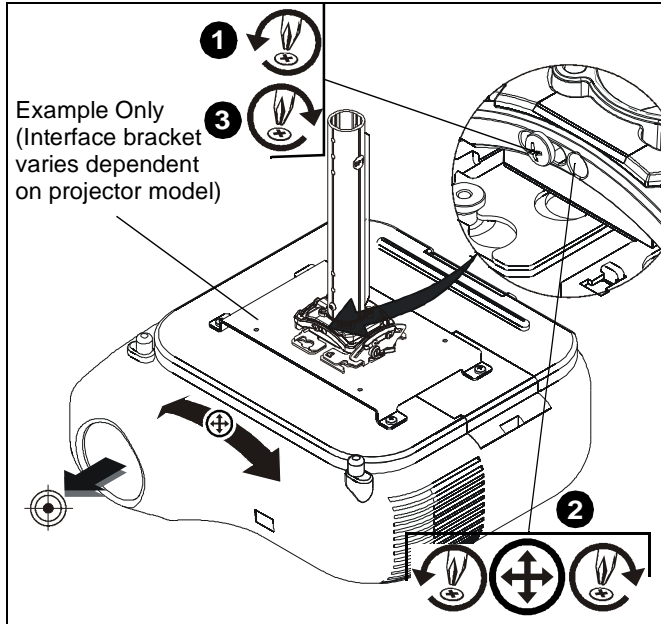

Figure 19
1. Loosen ROLL adjustment locking screw using a #2 Phillips screwdriver. (See Figure 19)
2. Turn ROLL micro-adjustment screw right or left using a #2 Phillips screwdriver until image is properly aligned on target. (See Figure 19)
3. Tighten ROLL adjustment locking screw using a #2 Phillips screwdriver. (See Figure 19)